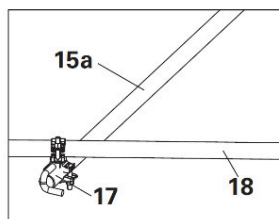
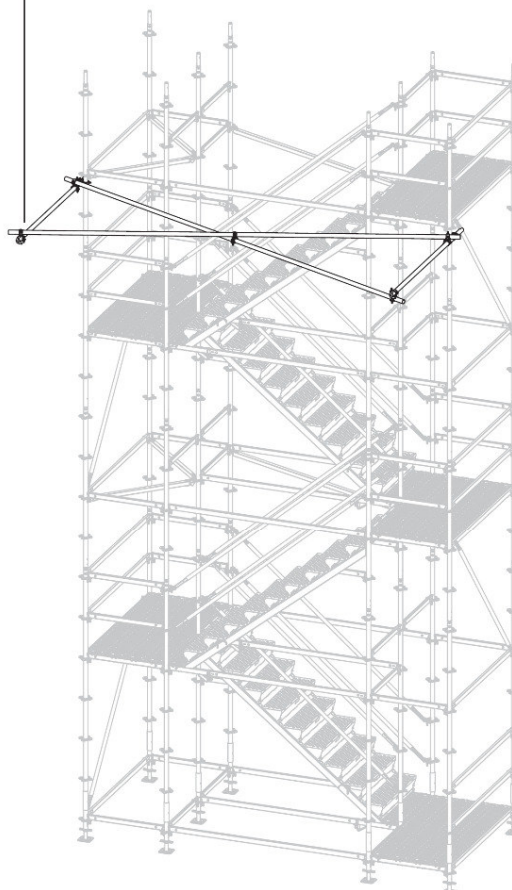
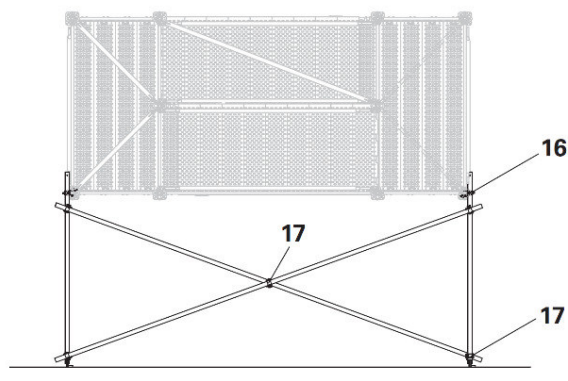

Fig.A5-3a
Fig.A5-3
Fig.A5-4
Fix Scaffold Tubes (18) to the Wall Ties UWT 140 or scaffold tube using Swivel Couplings (17). (Fig. A5-3a and Fig. A5-4)
(Fig. A5-3 and Fig. A5-4)